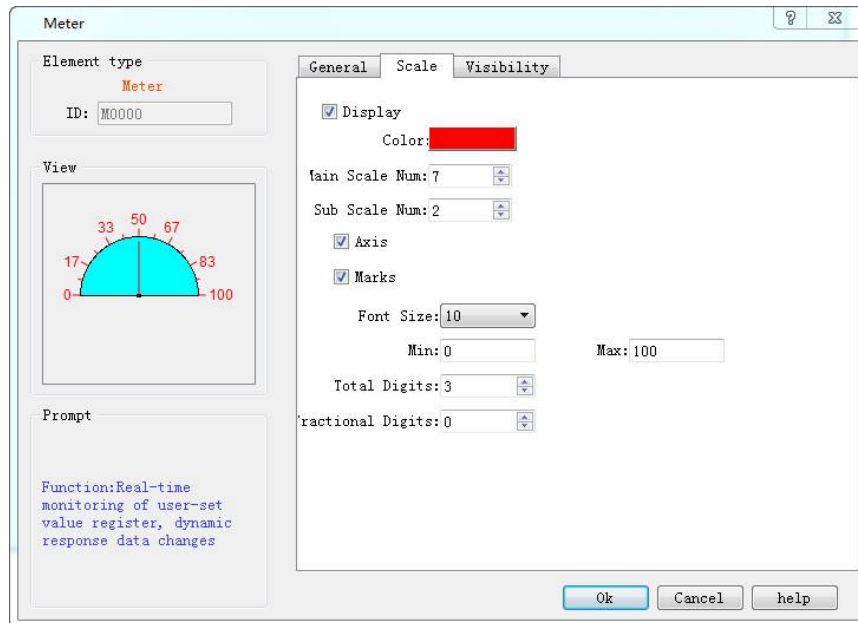

Figure 4-63 Scale tab of Meter
2. Click the Scale tab to set the scale properties, as shown in Figure 4-63: